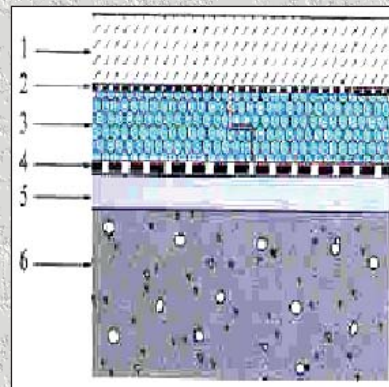

Figure: 2
- Using shining and reflecting material for the rooftop (Figure:2)